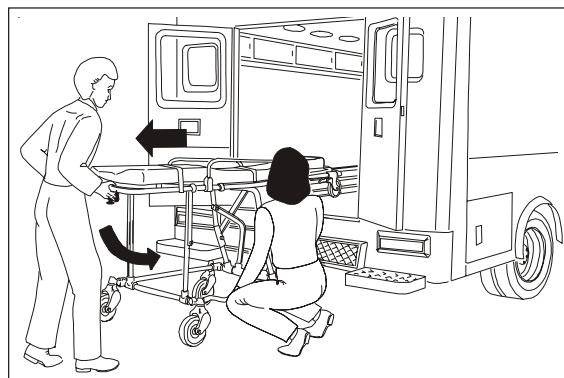

Figure 28 - Unloading the Cot
4. *Head-End Operator*: As cot is being pulled from patient compartment, grasp undercarriage lifting grip and lower undercarriage (Figure 28).